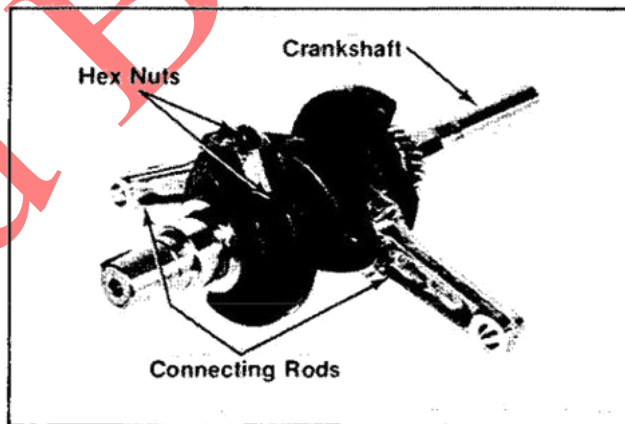

Figure 9-41. Removing Connecting Rods.
2. Remove the hex nuts, connecting rod caps, and connecting rods from crankshaft. Refer to Figure 9-41.